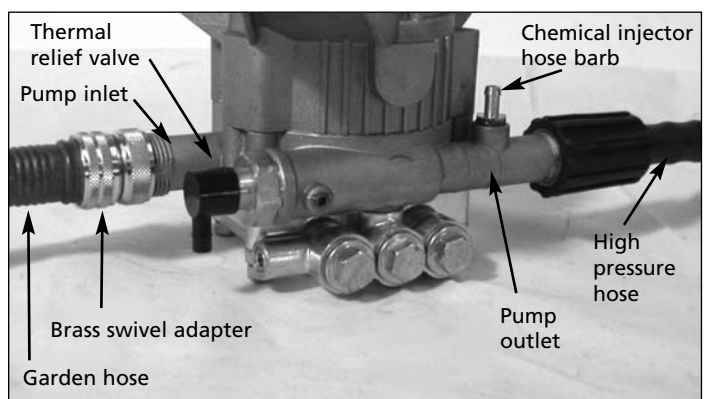
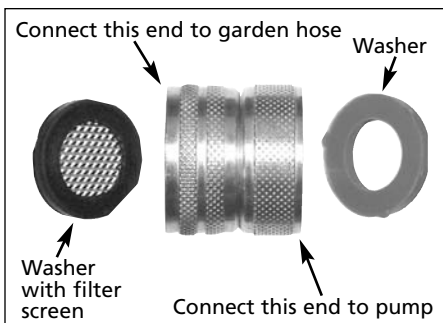
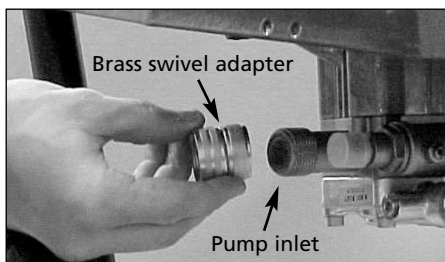

Figure 4 - Pump hook up
Figure 6 - Brass swivel adaptor
Figure 7 - Connect the brass swivel to the pump
3. a. Model PW2002: Slide clear plastic hose onto chemical injector hose barb (Figure 4). Use other end for detergent source.
4. **Brass Swivel Adaptor** (See Figure 4). If it's not already attached to the pump inlet, assemble the brass swivel adaptor and attach it to the pump inlet (See Figure 6 and Figure 7). Be sure to connect the correct side of the brass swivel adaptor to the pump.
6. Connect the high pressure hose to the pump outlet (See Figures 4 and 8).